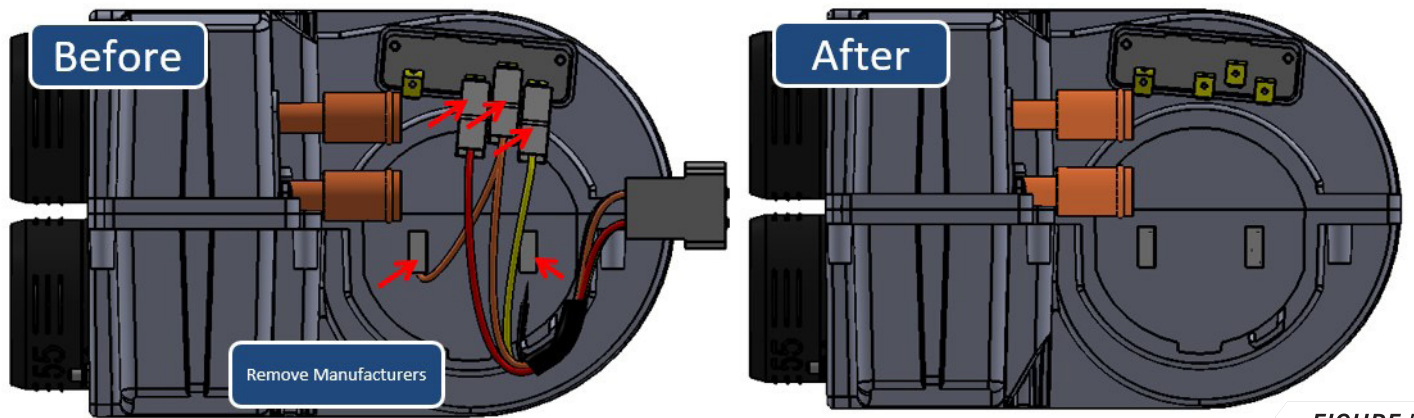

FIGURE 5
19. Remove the wiring harness from the heater unit. *FIGURE 5*